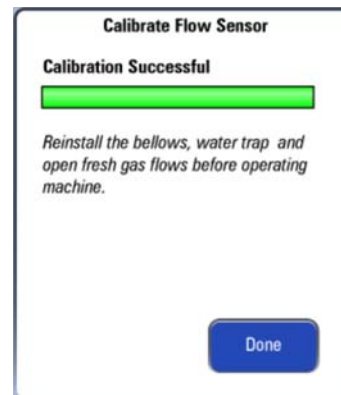

FIGURE 7-3 Flow Sensor Calibration
11. Select **Done** to close the **Calibration** window (see FIGURE 7-3).